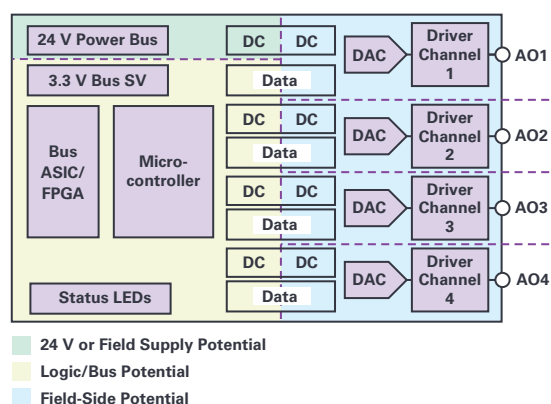

Figure 1. Block diagram of an isolated analog output system.
Today's typical programmable logic controller (PLC) contains a multitude of analog and digital inputs and outputs for the monitoring and control of industrial and production processes. Modularization is widespread and, with respect to inputs and outputs (I/Os), covers the basic functions of analog I/Os and digital I/Os. The analog output presents a particular challenge because, as shown in Figure 1, a set value must be driven actively and with high accuracy under numerous different load conditions. The active driver stage is important here; losses should be kept as small as possible.
- ▶ Isolated driver supply: For safety reasons, the PLC bus is always galvanically isolated from the I/O modules. Figure 1 shows this isolation with color coding for the three different potentials of logic (bus) side, voltage supply, and field-side output.